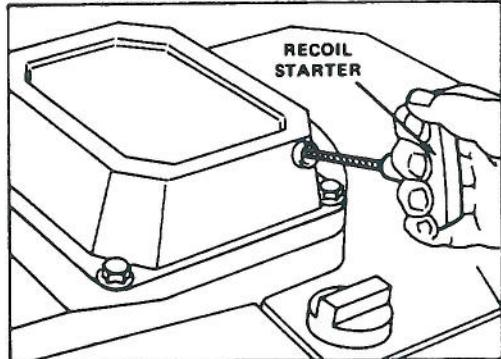

Figure 10
3. FINGERTIP STARTING — Move throttle to CHOKE. Pull engine mounted fingertip starter (Fig. 10) and regulate throttle as desired when engine starts.
Note: If battery is discharged, engine can be started with the recoil starter (Fig. 10).